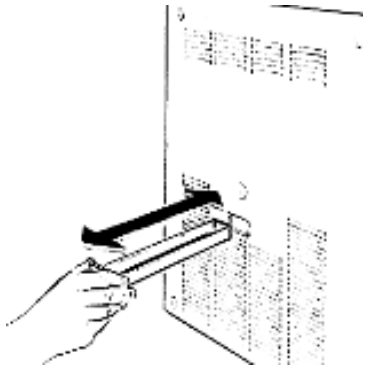

Fig. 57
- Remove the side drawer as indicated in Fig. 57 and check for some dripping remembering to reinsert it once checked.